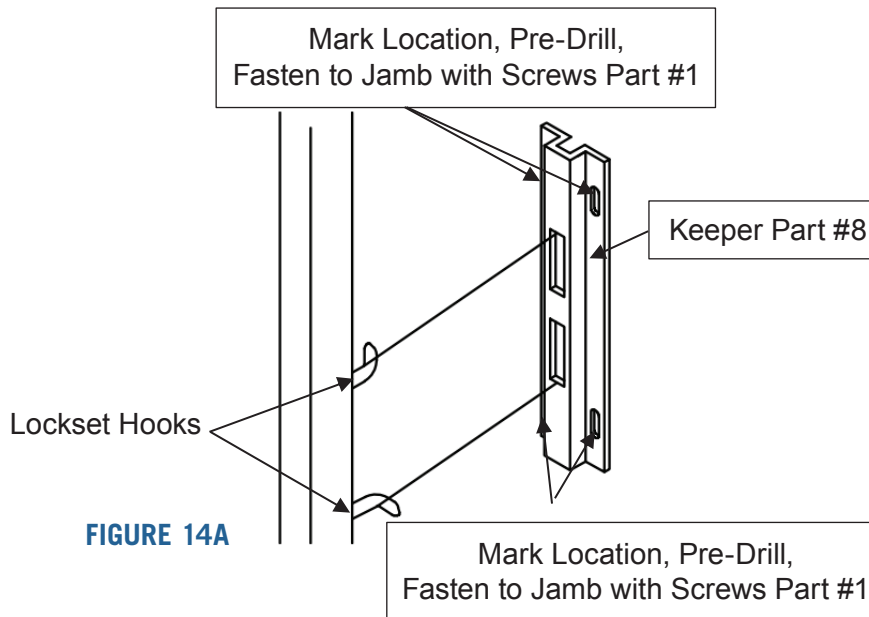
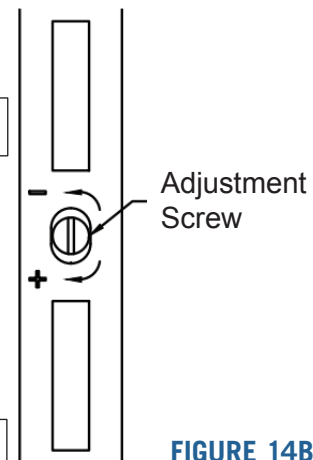

FIGURE 14A
FIGURE 14B
17. After the final roller adjustments, install the keeper (Part #8) into the lock side jamb (Part #6) by aligning with the lockset hooks on the panel and marking the location of the keeper's four screw holes onto the jamb. Next, pre-drill holes in the jamb at the marked locations using a size $\frac{1}{8}$ " - $\frac{3}{16}$ " drill bit. Lastly, fasten the keeper to the jamb with screws (Part #1) as shown in Figure 14a (use sealant to lubricate screws). After the keeper has been installed, adjust the throw on the hooks of the lockset to ensure a tight fit when the door is closed and locked by turning the adjustment screw located between the hooks shown in Figure 14b.